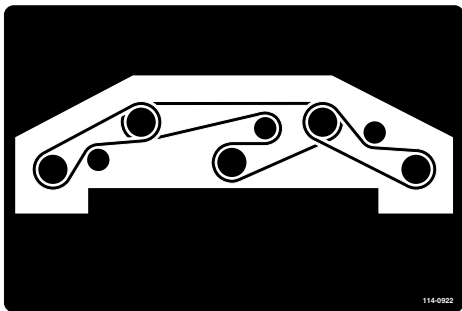

Figure 95
8. Route the new belt around the spindle pulleys and idler-pulley assembly (Figure 95).